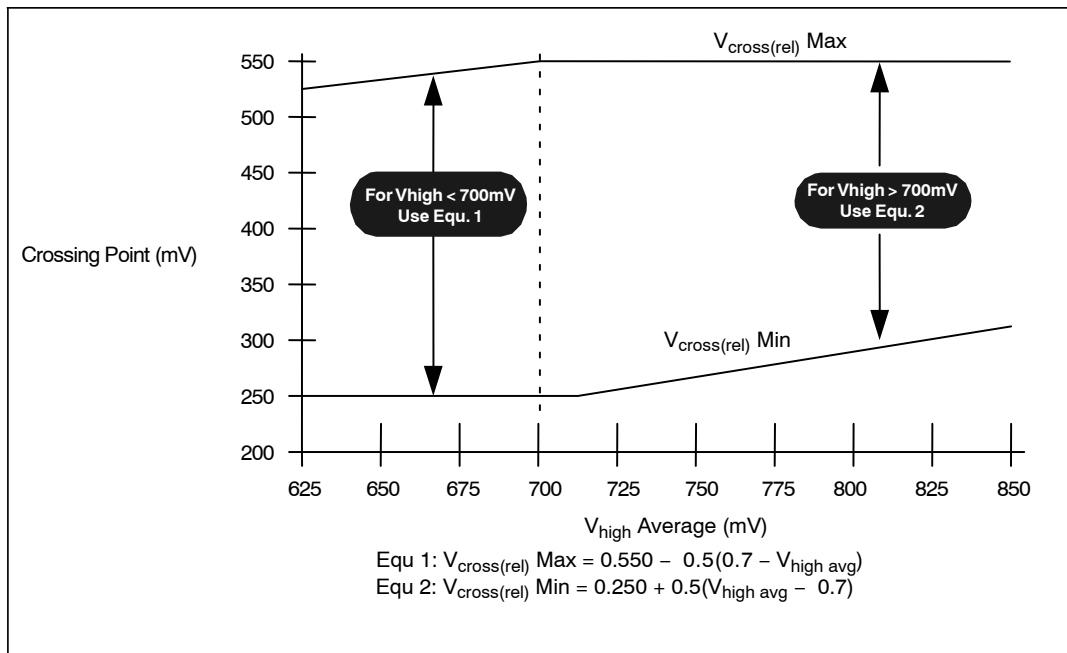

Figure 16. V_{cross} Range Clarification (Note 40)
16. Vcross(rel) Min and Max are derived using the following, $V_{\text{cross}(rel)}\text{ Min} = 0.250 + 0.5 (V_{\text{high avg}} - 0.700)$. $V_{\text{cross}(rel)}\text{ Max} = 0.550 - 0.5 (0.700 - V_{\text{high avg}})$. (see Figure 16 for further clarification).